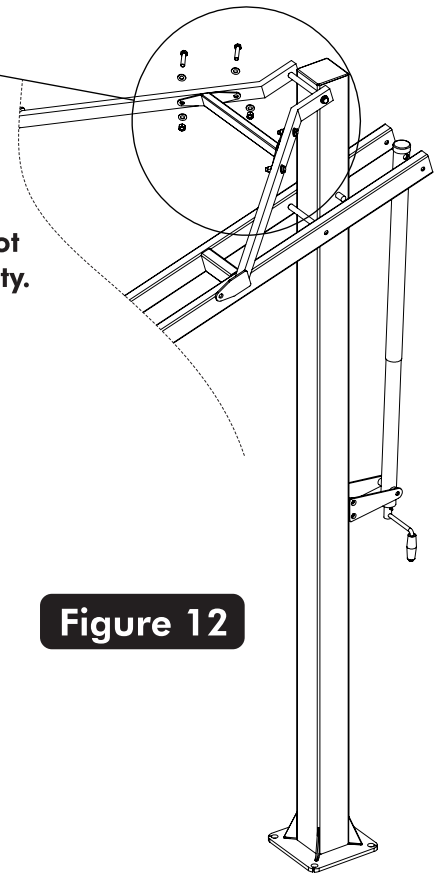

Figure 12
18. With the help of another adult attach the Cross brace (#52) with four Bolts (#50), eight Washers (#3) and four Locknuts (#4) as shown in Figure 12 and Detail C.